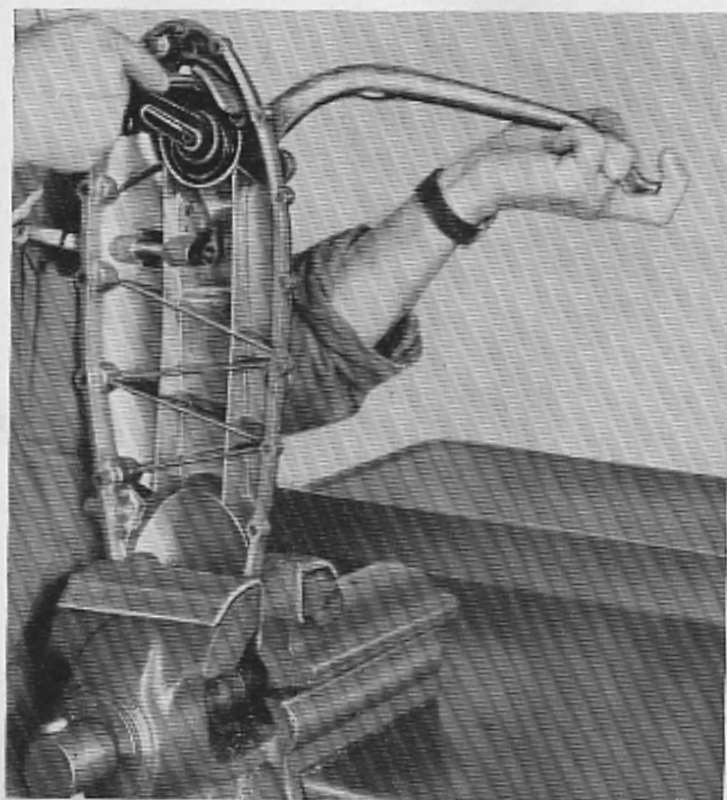

Fig. 3
- 7 Remove Kick start shaft: place crankcase cover in a vice, rotate kick-start pedal to the end of its stroke and keeping it in this position, remove the cam (10mm spanner). See Fig. 3. Extract pedal circlip, unscrew the fixing bolt (11mm spanner) draw pedal along its shaft enough to allow it to rotate freely but do not remove. Free the spring by slowly moving the pedal. Remove the pedal, the circlip, the washer and then remove the pedal shaft and the spring.